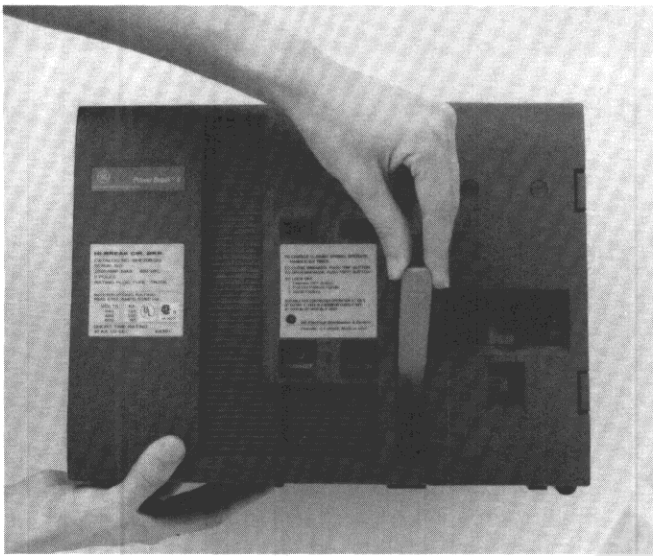

Figure 2. Removal of breaker top cover.
4. Loosen the four screws at the corner of the breaker cover. Remove the cover from the breaker face, as illustrated in Figure 2.